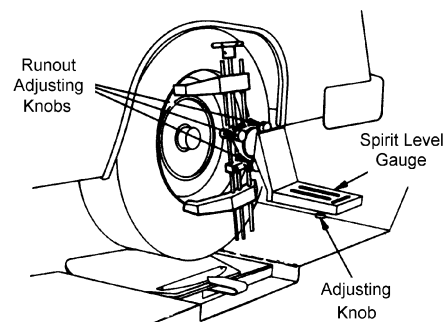

Figure 9
- 2) Mount the Spirit Level Gauge on the Wheel Clamp. (See Figure 9) Center the magnet on the Wheel Runout Compensating Adapter. Turn the Spirit Level Gauge so it is level.